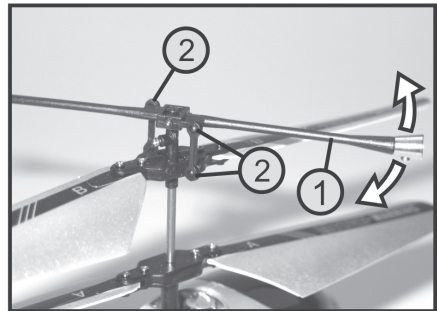

Figure 7
Manually move the centrifugal weight up and down on one side (see arrows in figure 7) and ensure that the two attached ball joints (2) can be moved easily.